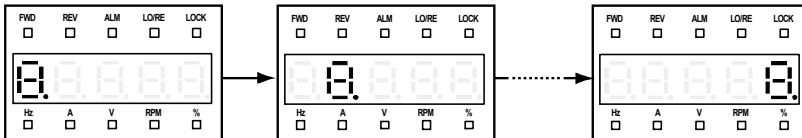

Figure 6-4 Starting panel self-testing
1. In stopping state, press **►** key and **◀** key simultaneously for 2—3 seconds, the 5 LED will cyclically display “8.” from left to right in turn for three times which is as shown in Figure 6-4.